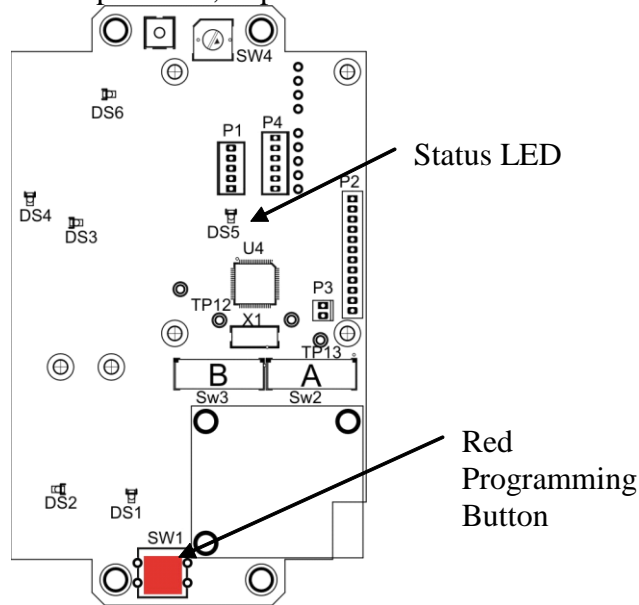

Figure 18
Remove the cover from the RF Receiver/Control Module. SW4 (Figure 18) allows this board to be used in different product applications. In order for it to properly operate the RF monitors, it must be set to:
If it is set to a value that is not yet programmed, the status LED, DS5 (Figure 18), will blink rapidly until a valid setting is selected and power is cycled off and back on. If SW4 is set to a valid setting but not one of the above positions, unpredictable results will occur.
(1) Hold the Red Programming Button (see Figure 18) on the controller board until the programming LED flashes on (approx 5 seconds).
(2) To set the left hand limit run the monitor left until it has reached the desired position. Quickly press and release the Red Programming Button. The programming LED will flash once to acknowledge the new limit position.
(3) To set the right hand limit run the monitor right until it has reached the desired position. Quickly press and release the Red Programming Button. The programming LED will flash twice to acknowledge the new limit position.
(4) To set the left/right stow position of the monitor, move the monitor to the desired position. (Note – The stow position must be between the right and left limits that were just programmed in the previous two steps.) Quickly press and release the Red Programming Button. The programming LED will flash rapidly several times to acknowledge the new stow position.
(5) To program the vertical stow position set switch A position 1 to “ON” for stow up or to “OFF” for stow down (Receiver only). NOTE: The up/down stow position will either be all the way up or all the way down, nowhere in between.
(6) Remove power from the monitor for a minimum of 5 seconds. Reapply power and operate the monitor to verify that the travel limits are at the correct positions and that the monitor stows correctly.
- (1) Move the monitor to the left/right stow position. Hold the Red Programming Button (see Figure 18) on the controller board until the programming LED flashes on (approx 5 seconds).***
- (2) Press and release the Red Programming Button on the controller board again. The programming LED should flash once.***
- (3) Press and release the Red Programming Button again. The programming LED should flash twice.***
- (4) Press and release the Red Programming Button a fourth time. The programming LED should flash rapidly several times. (NOTE - There are no limits stored in memory at this time and the monitor is capable of rotating 360°)***
- (5) To program the vertical stow position set switch A position 1 to “ON” for stow up or to “OFF” for stow down (Receiver only). NOTE: The up/down stow position will either be all the way up or all the way down, nowhere in between.***
- (6) Remove power from the monitor for a minimum of 5 seconds. Reapply power and operate the monitor to verify that the monitor will rotate 360° continuously and stows correctly. (If the unit does not perform correctly repeat steps 1 through 6.)***
DS1 (Figure 18) - Lights when either nozzle direction is engaged.
DS2 (Figure 18) – Lights when either of the AUX buttons are pushed.